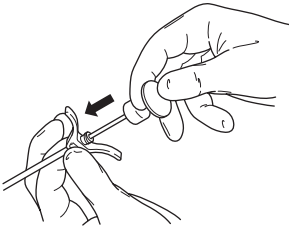

Figure 3 – Inject Bone Cement Using the Cement Obturator
- Under fluoroscopic guidance, inject the bone cement using the cement obturator (figure 3).